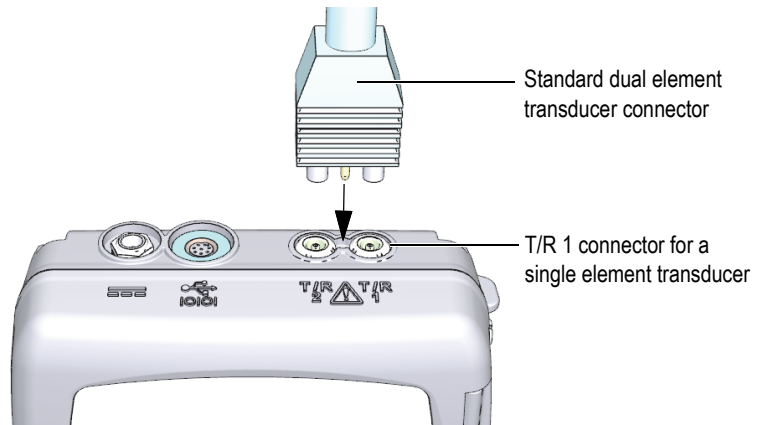

Figure 5-1 Plugging the transducer
1. Plug the transducer into the transducer connector(s) at the top of the 39DL PLUS case (see Figure 5-1 on page 80). Use T/R 1 for a single element transducer.